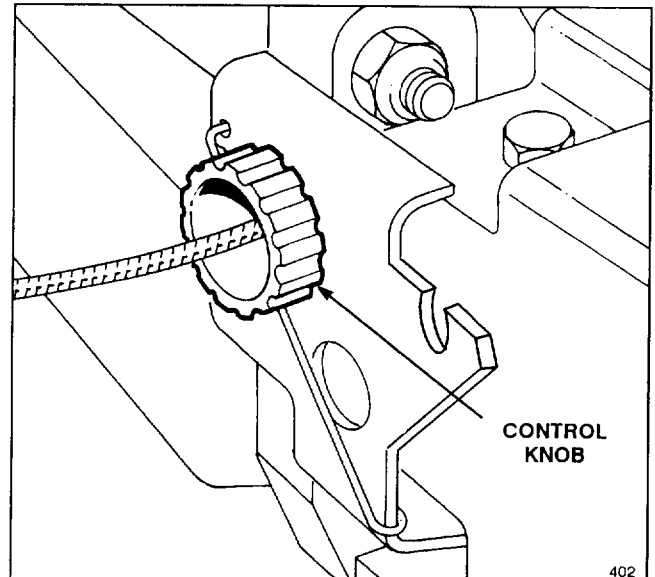

Figure 20
1. ADJUSTMENT (Fig. 20)—Rotate control knob clockwise  $\frac{1}{2}$  turn if mower does not self-propel. If mower creeps forward, rotate knob  $\frac{1}{2}$  turn counterclockwise to loosen belt.